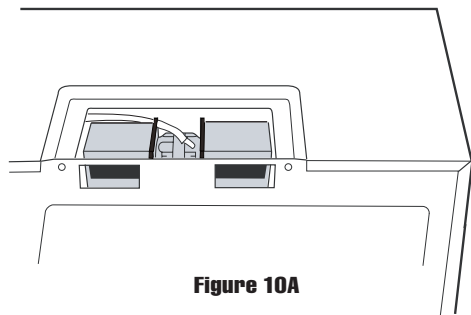

Figure 10A
5. Put the wire back into cavity. See Figure 10A on page 5.